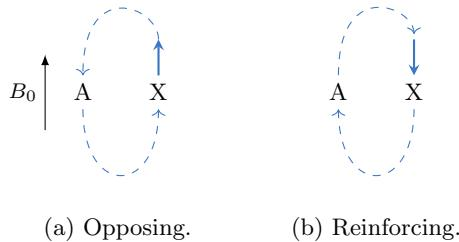

Figure 9.3: Dipolar coupling.
- X can oppose or reinforce the applied magnetic field B_0 at A (see Figure 9.3).